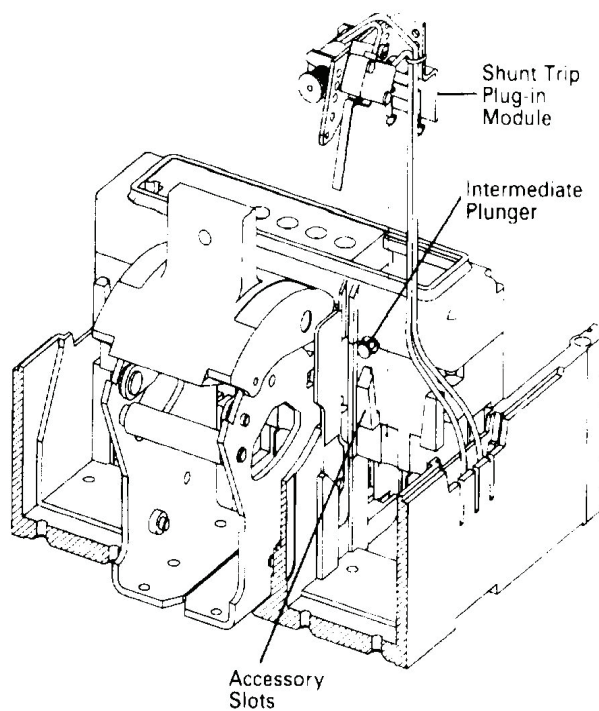

Fig. 2-3 Installing Intermediate Plunger and Shunt Trip.
- 2-5. Insert shunt trip as described in the following steps. (Fig. 2-3).